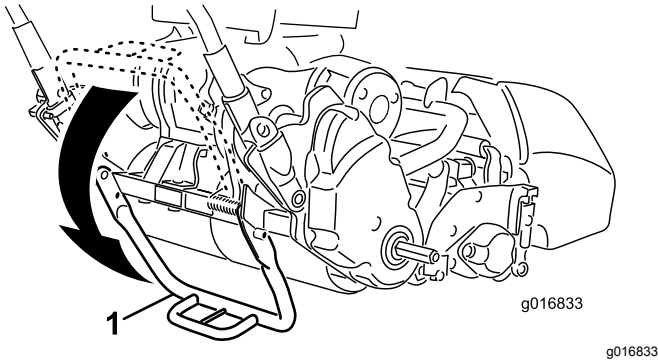

Figure 9
1. Use your foot to push the center of the kickstand down and pull up on the lower handle support until the kickstand has rotated forward and over center (Figure 9).